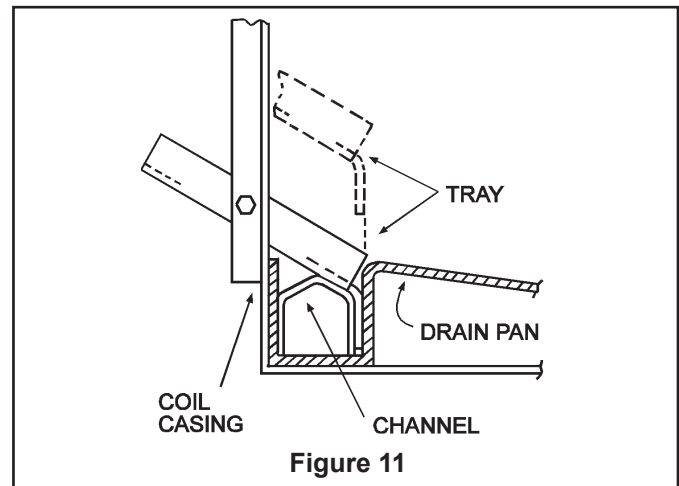

Figure 11
- d. Wedge flange of Splash Guard between Channel for Splash Guard and Horizontal Drain Pan as shown in Figure 11.
- e. Drive one field-supplied sheet metal screw into Splash Guard through factory-provided clearance hole in the front duct flange on the coil case. Refer to Figure 11.